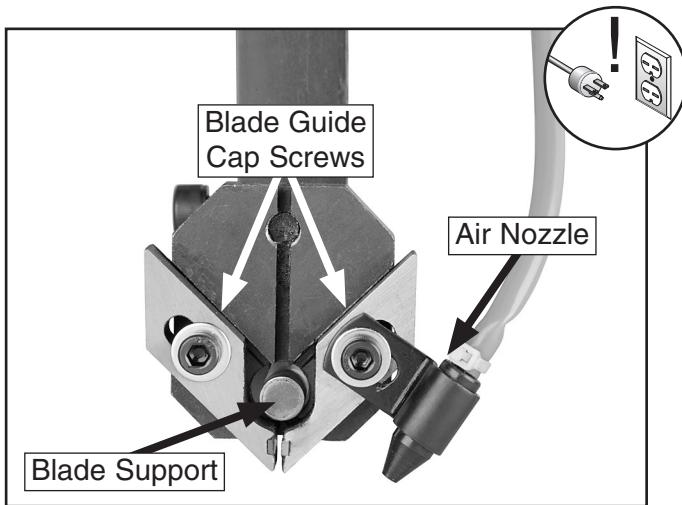

Figure 29. Blade guide assembly (upper assembly shown without blade for clarity).
5. Slide the blade support (see **Figure 29**) up to, but not touching, the back of the blade, then re-tighten the blade support cap screw.
7. Use a 4mm hex wrench to loosen the blade guide cap screws (see **Figure 29**).